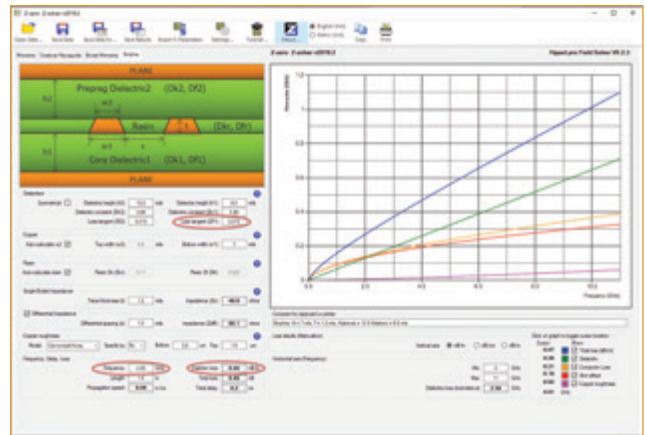

FIGURE 1. Differential insertion loss of 0.45dB/in. computed from a loss tangent of 0.013 using Z-zero Z-planner software and Mentor's HyperLynx field solver.
section, was to determine which Df characteristics would be required to meet the insertion loss (IL) goal. **FIGURE 1** shows that at 4GHz a laminate with a loss tangent of 0.013 would meet the 0.48dB/in. target with a little margin. This Df number was determined by entering all the SITV cross-section data, including the Dk from one of the materials under consideration, along with copper roughness, and then determining what Df value met the IL threshold. This is helpful going in. We're looking for resin systems with actual Dfs at 0.13 or slightly lower.